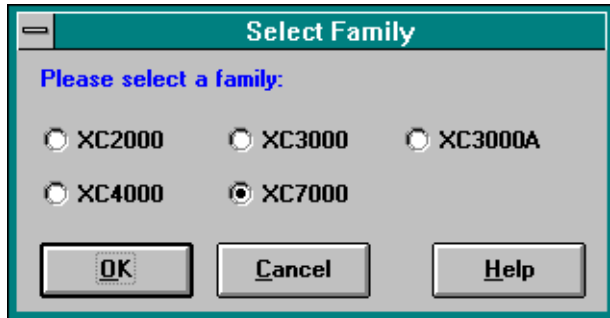

Figure 2-8 Select Family Dialog Box
- Select the **Create** button. This opens the Create Project dialog box as in Figure 2-8: